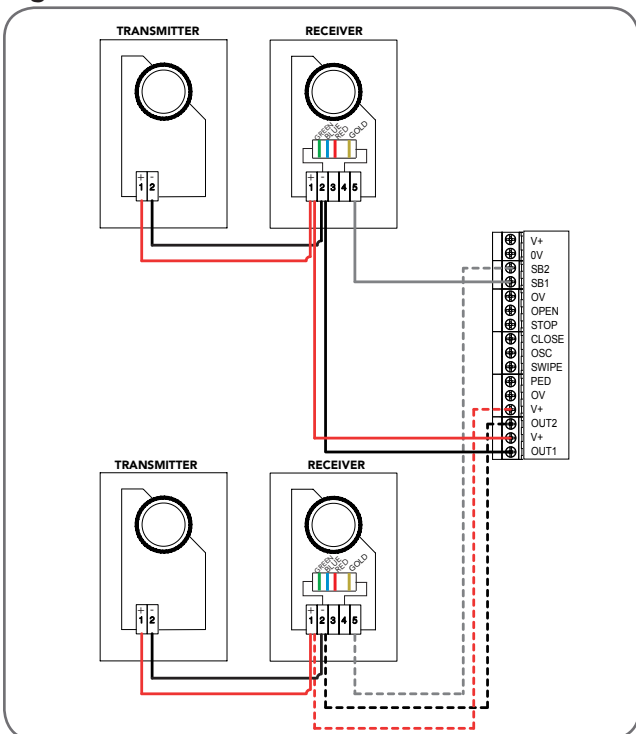

Fig 6.7
- ii. For dual Safety Beams, connect the yellow wire to SB1 input and the red wire to V+, next to the OUT1 common terminal and the black wire to the OUT1 common terminal for the first safety beam. For the second safety beam, connect the yellow wire to the SB2 input and the red wire to the V+, next to the OUT2 common terminal and the black wire to the OUT2 common terminal. (Fig. 6.7)